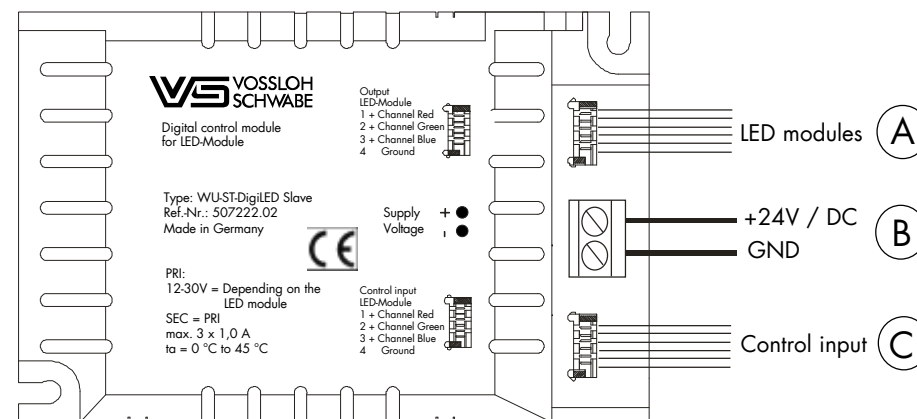

Figure 1: Connection scheme DigiLED Slave
Figure 1 shows the connection scheme of the DigiLED Slave. The connections of the module are one 2-pole screw terminal (B) for the supply voltage, one system plug (C) as input for a DigiLED connected in series (DigiLED 1-10V, DigiLED Manuell, DigiLED DALI, DigiLED DMX or several DigiLED Slave which can be connected in series) as well as another system plug (A) as output to the LED modules. The number of the controllable modules depends on the power consumption of the lighting modules where a total of max. 1.0 A must not be exceeded per channel.